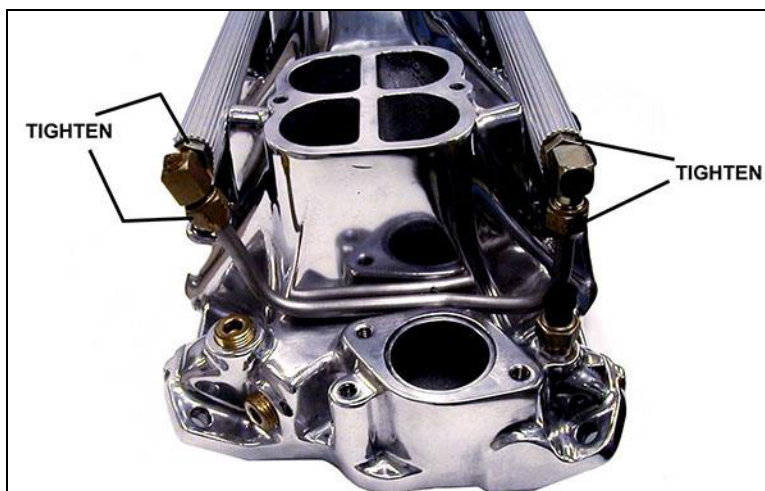

Figure 3
6. Securely tighten the front crossover tube with a wrench. See Figure 3.
The high-pressure fuel supply system consists of the following sub-systems: the fuel pick-up, the coarse fuel pump pre-filter, the high-pressure electric fuel pump, the 10micron high pressure fuel filter, and the feed line (See Figure 3). The fuel pick-up